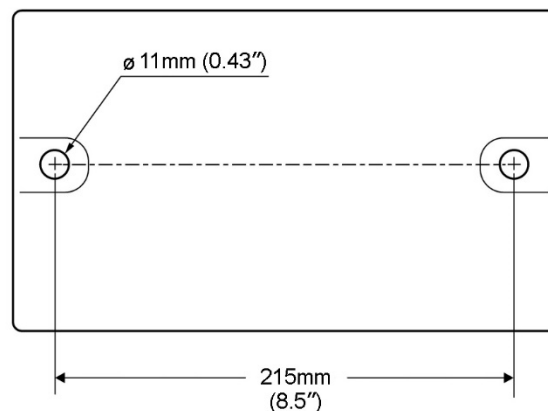

Figure 4-1: IBGM-8VS hole centers
1. Align the mounting holes on the grinder with predrilled holes in a bench or grinder stand. Figure 4-1 shows hole centers for mounting.